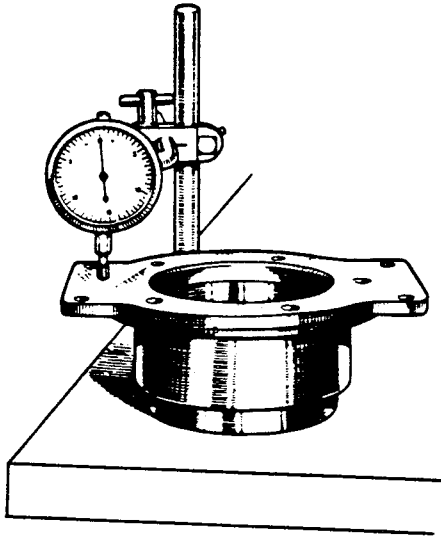

FIG. 2. CLOCKING TOP FACE OF SPIGOT PLATE.
- b) Place the sub-assembly on a surface plate with the spigot plate uppermost and clock the top face of the spigot plate (See Fig.2). Fit a new adjusting piece (RG-3181), bolt up as before, and again clock the face of the spigot plate. An amount equal to the difference in clock readings should then be ground off the adjusting piece. The aim is to obtain zero nip on the bearing, but a nip NOT EXCEEDING .002" (.05 m/m) is permissible.